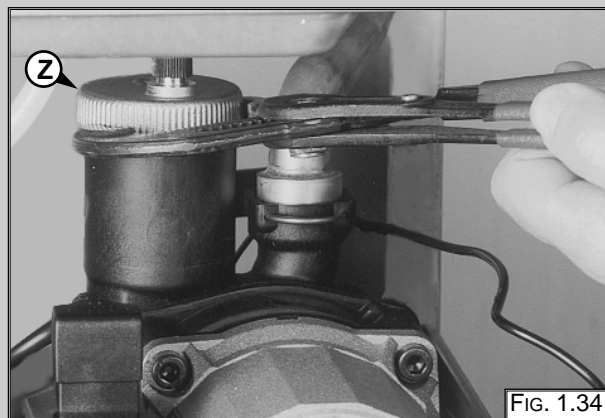

FIG. 1.34
1. Unscrew valve top "Z" (Fig. 1.34);